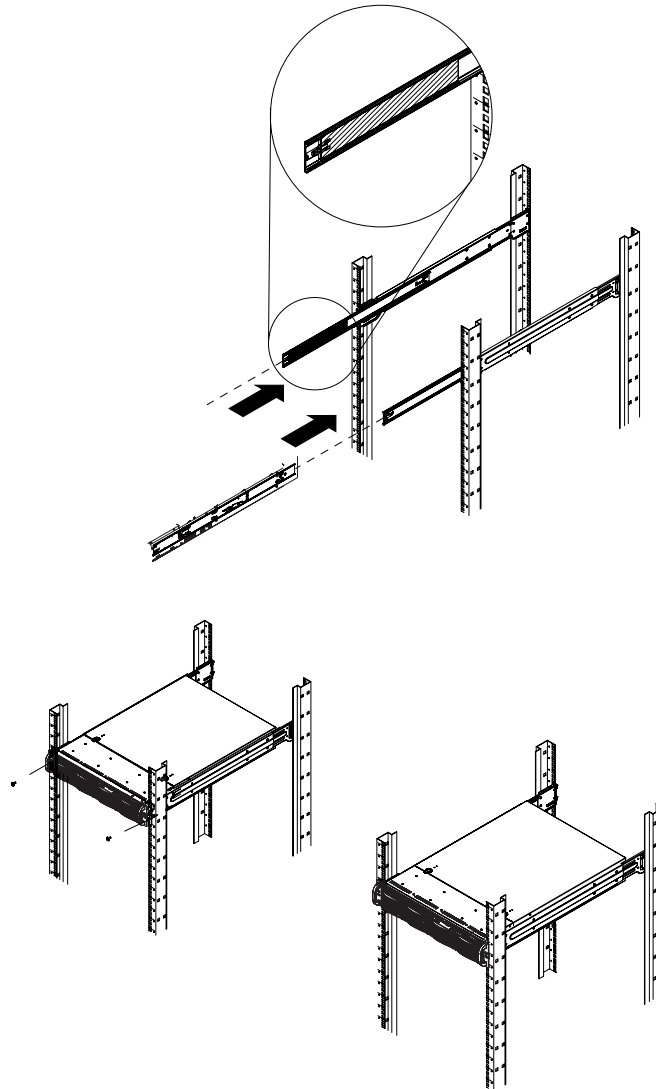

Figure 2-5 Installing the Server in the Rack
1. Extend the outer rails as shown in Figure 2-5 on page 17.